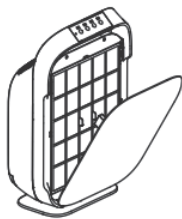

Fig. 1
2. Hold the front panel (1) top edge with one hand and the air purifier housing with the other. Release the top edge of the front panel from the magnetic latches with a gentle and firm motion, tilt the front panel open to 45°, and lift the front panel up (Fig. 1).